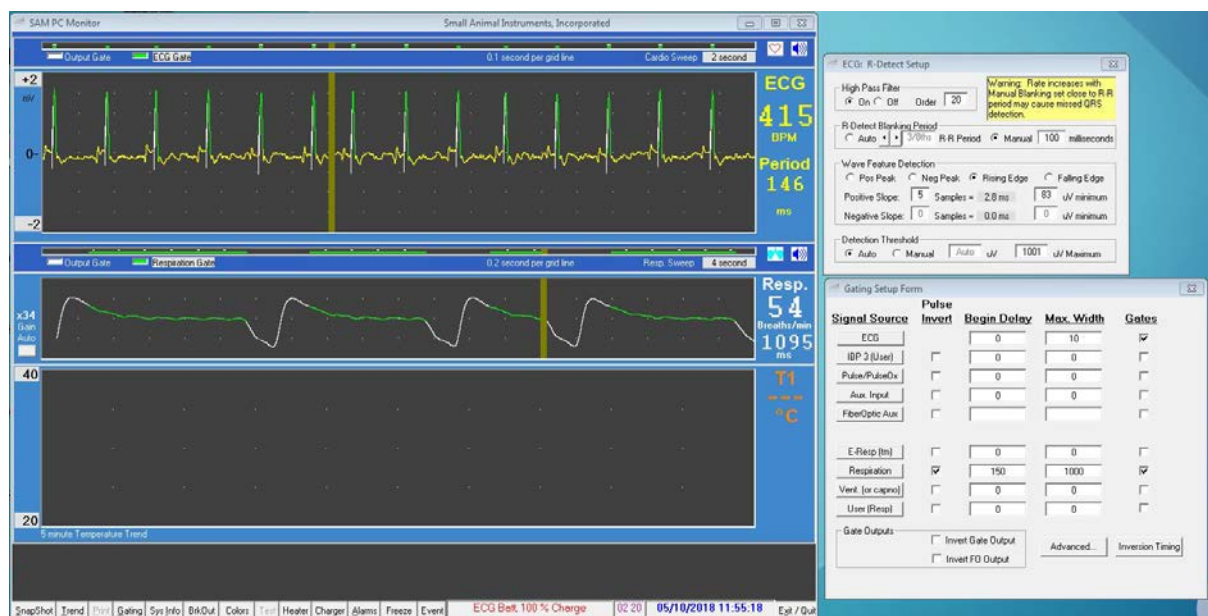

Figure 2: PC-SAM software after setup showing correct triggering of the ECG and respiratory readings.
- For ECG peak triggering, click on 'ECG' in the 'Gating Setup Form'. A window as shown in **Figure 2 on the left** will pop up. Adapt the following things:
- Once the triggering is correct, it will look like **Figure 2**.